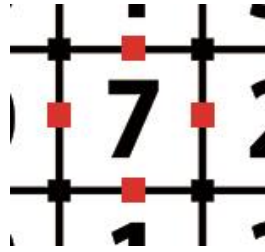

Figure 6: Position of the robot
- While picking, robot should be on the boundary of the cell. The position and direction of the robot can be on any of the four red dots given in Figure 6.